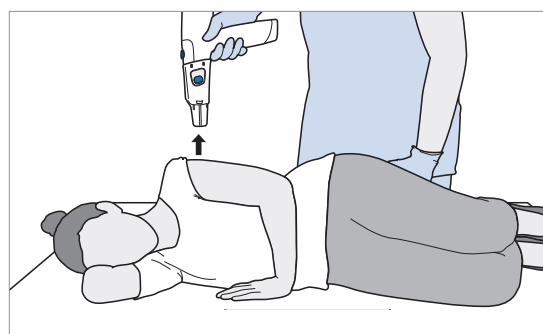

Figure 63 Remove Handset
6. **Withdraw the Handset straight out from the injection site after the treatment is complete (see Figure 63).**